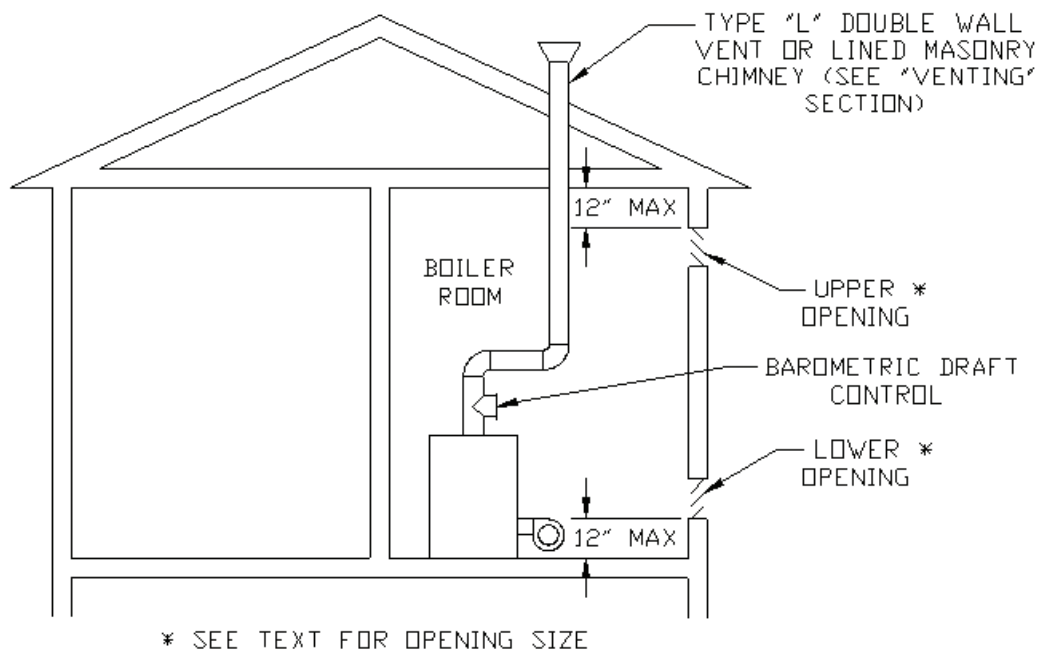

FIGURE 7: ALL AIR FROM OUTDOORS, USING OPENINGS INTO BOILER ROOM
- Vertical ducts or openings directly outdoors (Figure 5, Figure 6, and Figure 7) - Each opening must have a free cross sectional area of 1 square inch per 4000 BTU/hr of the total input of all fuel fired appliances in the boiler room but not less than 100 square inches. Minimum opening size is 3 inches.